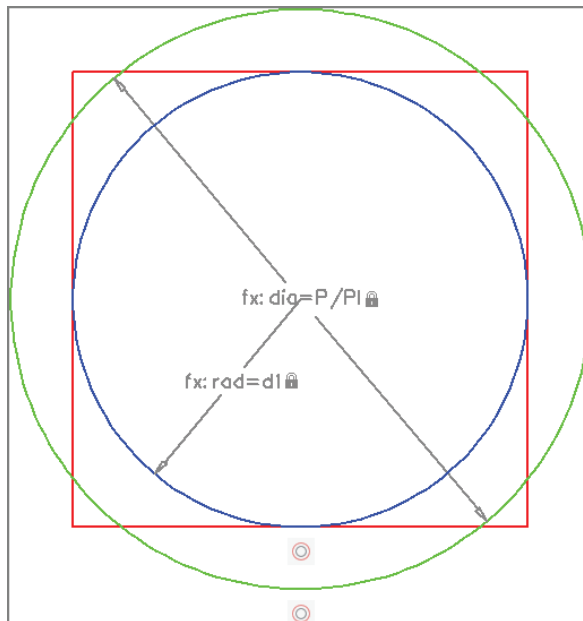

FIGURE 12.10 Constraining the blue circle geometrically and dimensionally
-  5. Select the Radius constraint tool in the Dimensional panel, select the blue circle, and click a point inside the circle to locate the dimension line. Type **rad=d1**, and press Enter. The blue circle changes size so that it fits perfectly within the square (see Figure 12.10).